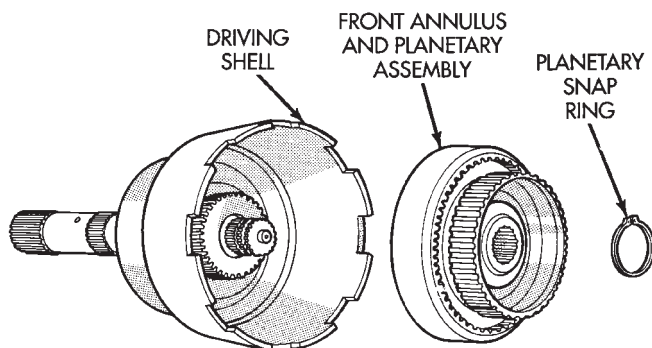

Fig. 145 Front Annulus And Planetary Assembly Removal
(1) Remove planetary snap ring (Fig. 145).
(2) Remove front annulus and planetary assembly from driving shell (Fig. 145).